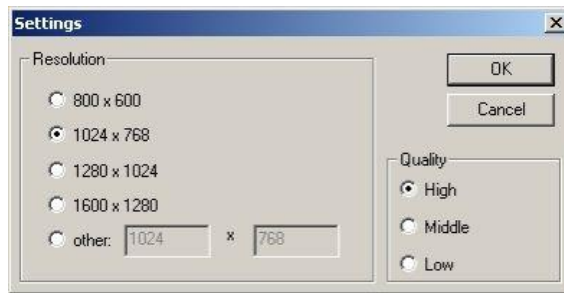

Figure 90: Dialog Settings for Graphics Export
- The settings dialog is opened after you have selected one of the five formats for the export of bitmap graphics. *Please refer to the Figure 90.*